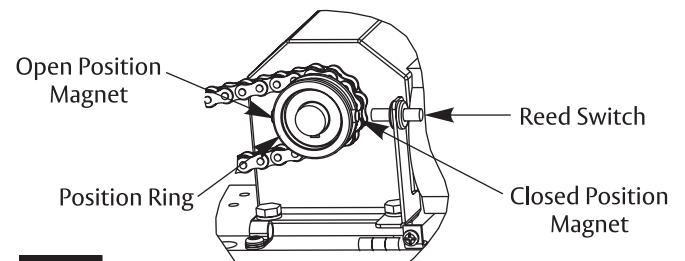

Figure 18
5. Adjust Closed Position Magnet (Figure 18)
6. Adjust Open Position Magnet (Figure 18)